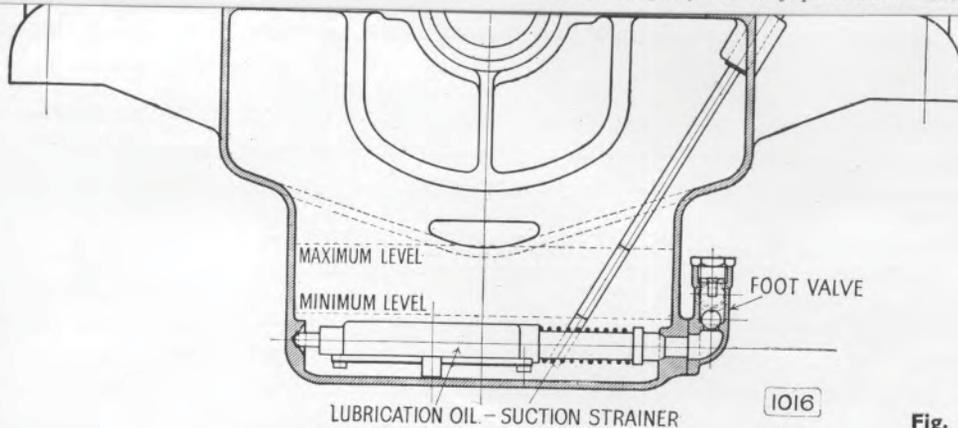

Fig. 4
22. **Lubrication System.**—To charge the sump in the lower crankcase, remove the cover of the oil filter box (Fig. 12) and pour in lubrication oil until the sump level reaches the maximum mark on the dip rod which will be found in the lower crankcase on the governor side. See Fig. 4, page 19.